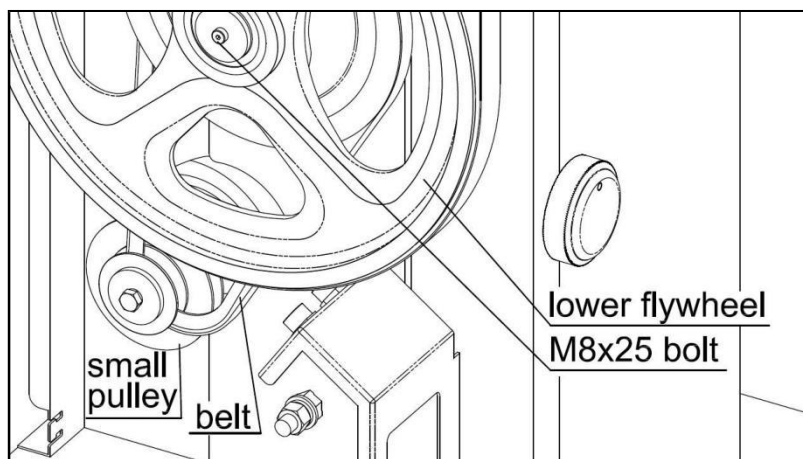

Fig. 12-1
**3.** As shown in Fig. 12-1, remove the belt from the small pulley.